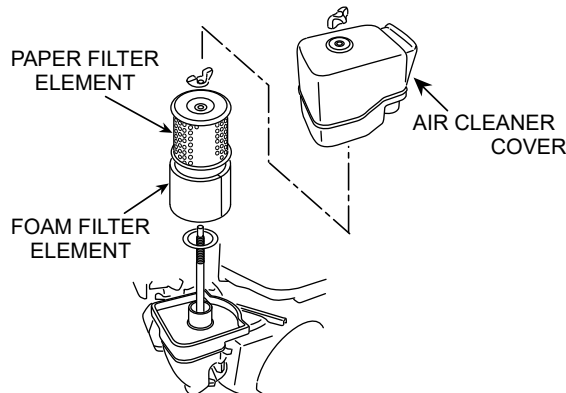

Figure 29. Air Cleaner Components
3. When element cannot be cleaned, replace with new one (Figure 29).